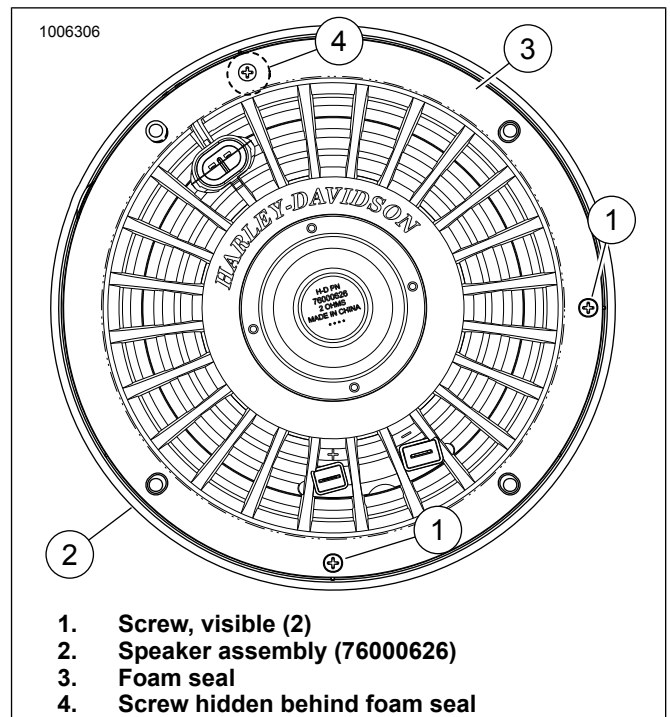
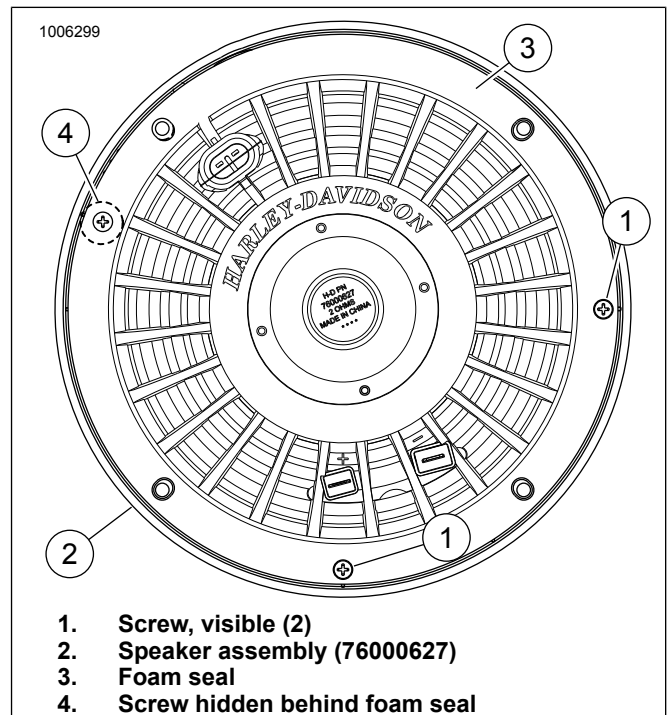

Figure 17. Left Stage II Speaker Assembly
Figure 18. Right Stage II Speaker Assembly
See Figure 17. and Figure 18. Locate hidden screw (4) under foam. Carefully make a small "X" with a hobby knife over the screw.